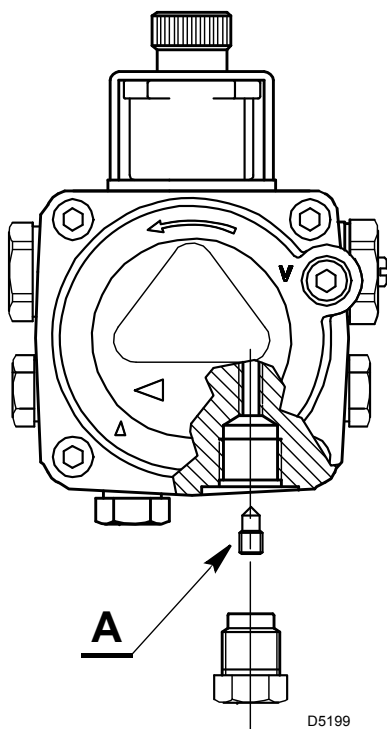

Fig. 1
For use on a two pipe system, it is necessary to **screw the by-pass screw (A) (Fig. 1)**.